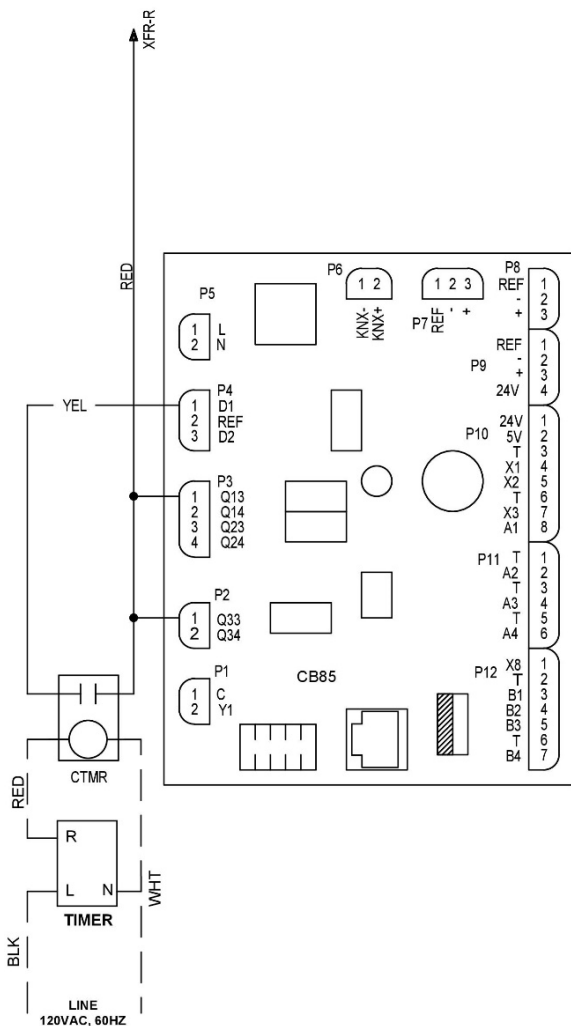

Figure 26 - Version 2 (120V Digital Timer Connection)
6. **FIGURE 26 - Version 2 (120V Digital Timer Connection).**